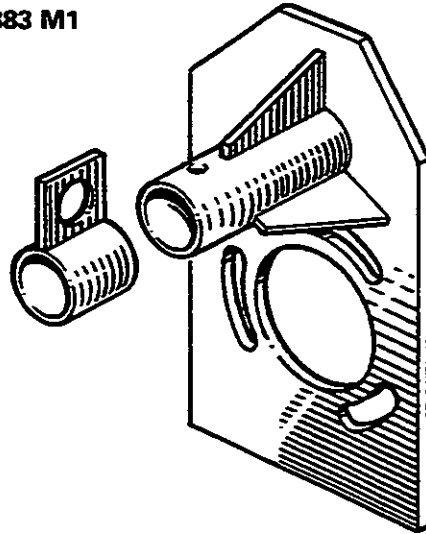

Fig. 21
- Sling for front housing, ref. 3376883M1 (Fig. 21)